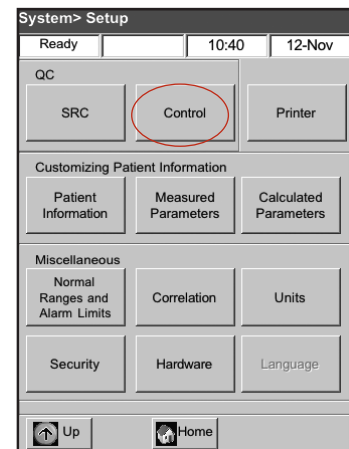

Figure H-3: System > Setup screen
3. Tap **Control** (Figure H-3).